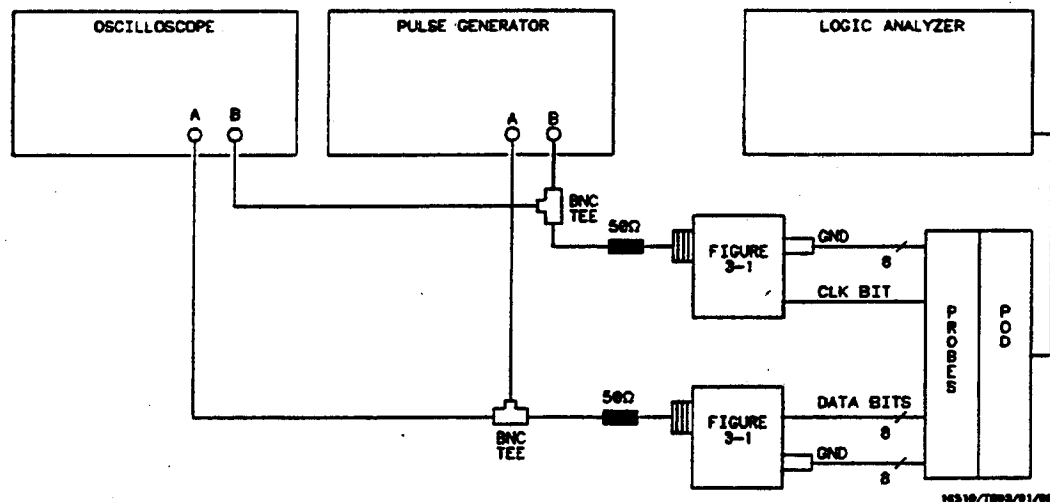

Figure 3-11. Equipment Setup For Test 2
- 1. Connect the HP 16510B and test equipment as shown in figure 3-11.**